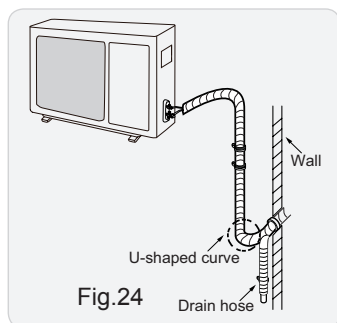

Fig.24
- (1) The pipes should be placed along the wall, bent reasonably and hidden possibly. Min. semidiameter of bending the pipe is 10cm.
- (2) If the outdoor unit is higher than the wall hole, you must set a U-shaped curve in the pipe before pipe goes into the room, in order to prevent rain from getting into the room. (As show in Fig.24)